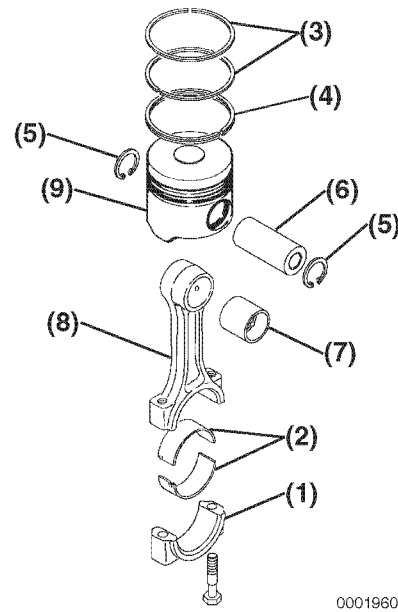

Figure 6-127
2. If removed, install a new wrist pin bushing (Figure 6-127, (7)) using a press and the appropriate service tool. Be sure to align the oil holes.
3. Reinstall one circlip (Figure 6-127, (5)) into the piston. Ensure the circlip is securely seated in the groove.